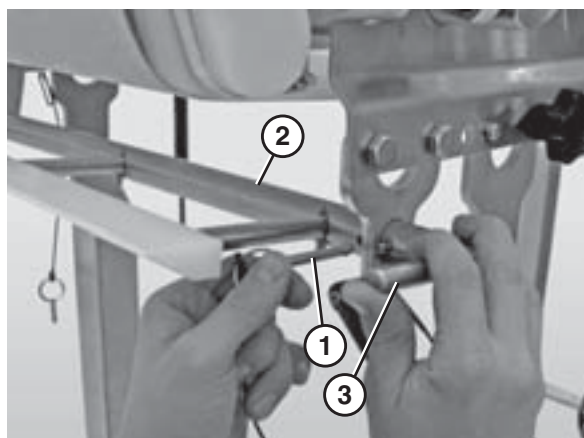

Figure 11
6. Insert the pin (Figure 11, item 1) to lock the scraper bar in place (Figure 11, item 2).
- Adjust the scraper to the desired position using the scraper bar handle (Figure 11, item 3).